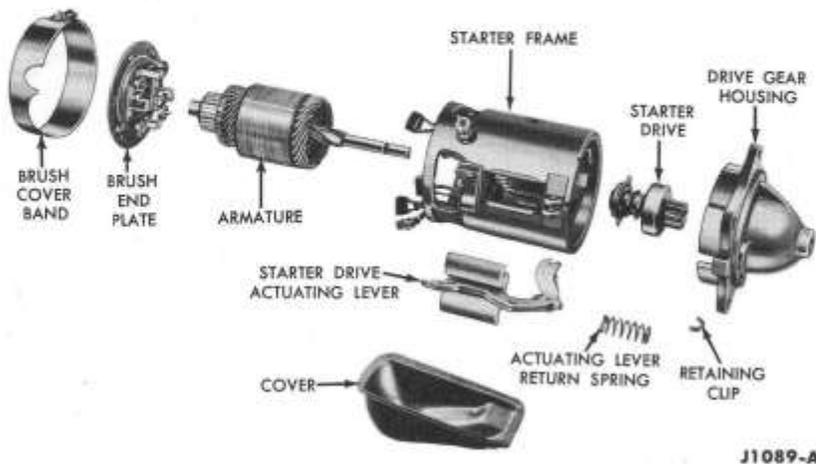

FIG. 10—Starter Disassembled
Use the following procedure when it becomes necessary to completely overhaul the starter. Figure 10 illustrates the starter completely disassembled.
1. Loosen the brush cover band retaining screw and remove the brush cover band and the starter drive actuating lever cover (Fig. 10).